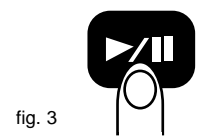
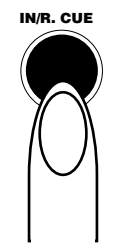

fig. 3
fig. 4
(b) BOP EFFECT: The Bop Effect button serves as two features, First, it is a stutter effect, creating a sound similar to a Sampler. Second, it will return to the last Cue point in memory instantly. This will allow you to create great effects. The Bop Effect is created in an easy way. (Step 1) Press the PLAY/PAUSE BUTTON (25) so music is playing. The PLAY/PAUSE LED will light (figure 3). (Step 2) Press the IN/R. CUE Button (In real time cue/figure 4) at the point you want your BOP to take place. (Step 3) Now press the BOP Button. It will produce a stutter effect as quickly as you hit the BOP button continuously return to the Cue point.